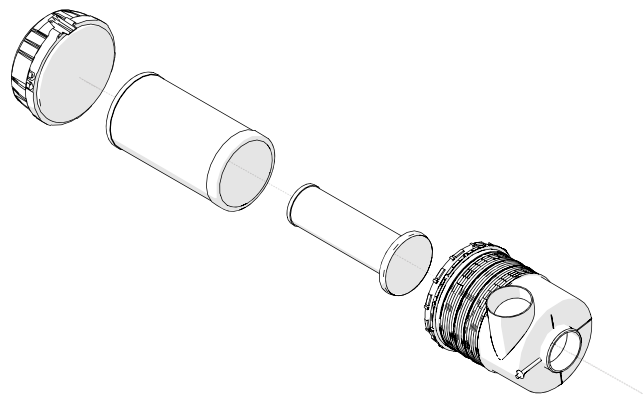

Figure 5-15. Air Filter Element
3. Thoroughly clean air cleaner assembly **(Figure 5-15)**.
6. Remove the filter element by sliding it out of the canister. **(Figure 5-15)**.
Remove the transfer case fill plug (**Figure 5-15,1**). The transfer case is full when oil runs from the fill plug opening. Add oil as necessary.